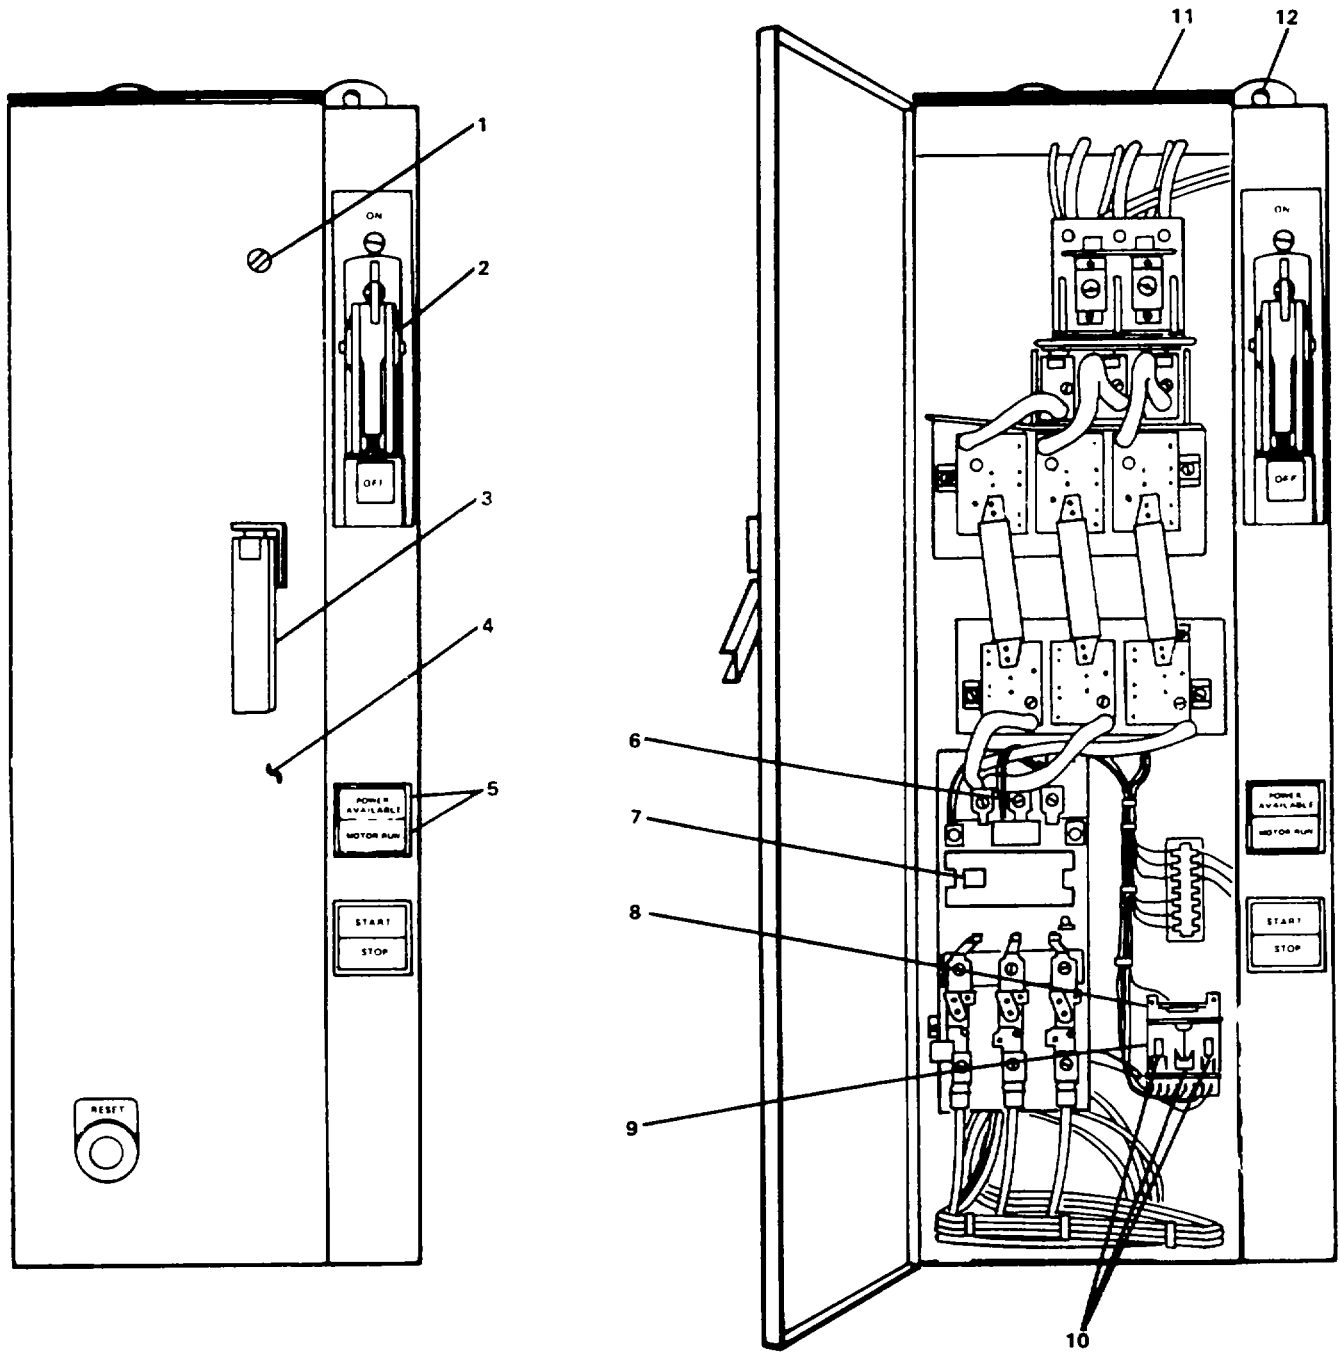

Figure 2-80. Motor Controller (Fire and General Service Pump #2).
- a. Remove lens covers (5, Figure 2-80).